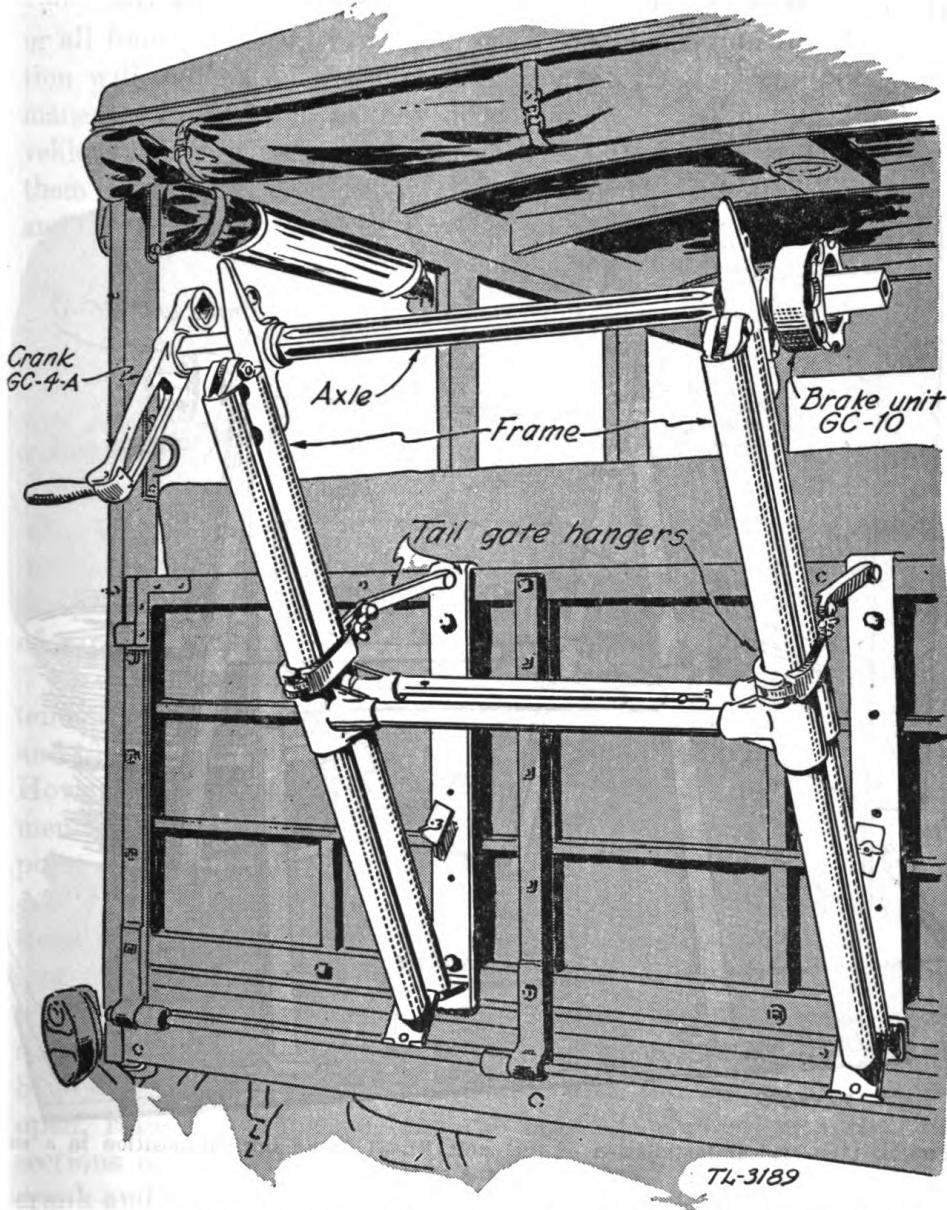
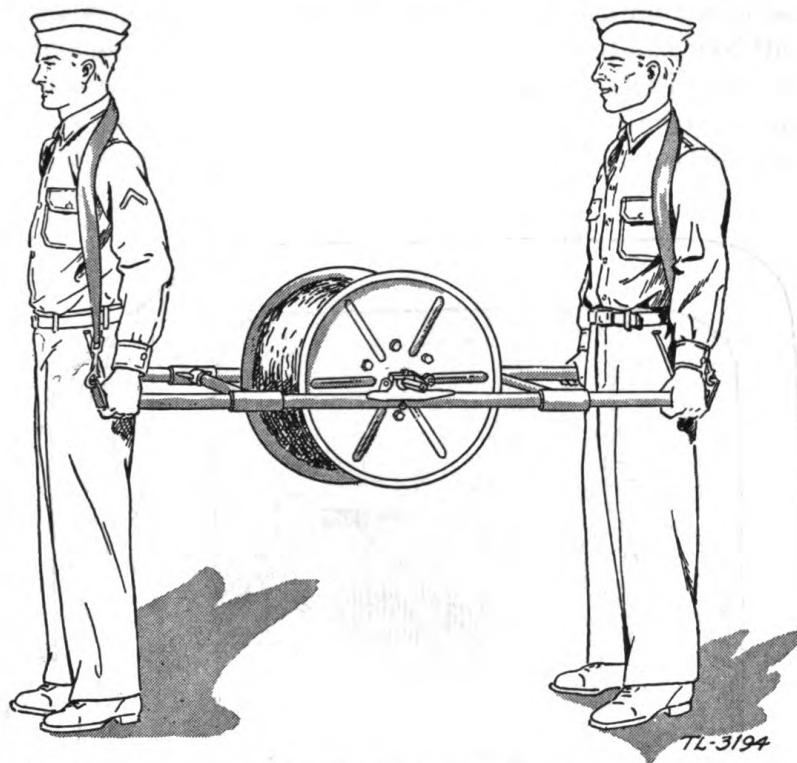

FIGURE 10.—Folded-up RL-31 mounted on back of a station wagon by means of tail gate hangers. Note how top clamps encircle both legs and hold them securely.
FIGURE 14.—Convenient means of carrying reel unit RL-31 loaded with mile of wire on reel DR-5.
10. Transportation.—a. General (Superseded).—The reel unit RL-31 is intended for use mainly in small trucks, as indicated in figures 10, 11, and 13. Two lines can be paid out or recovered provided that an equal amount of wire is maintained on the reels. The $\frac{1}{4}$ -ton, 4 by 4 truck can be used to lay field wire and field cable cross country over terrain impassable to other vehicles. When $\frac{1}{4}$ -ton trucks are used as wire-laying vehicles, larger trucks are often released for other purposes. The limited cargo space and weight-carrying capacity of the $\frac{1}{4}$ -ton truck restrict its use as a wire-laying vehicle. Only reel unit RL-31 and reels DR-4, DR-5, and DR-15 are to be used. Reel unit RL-31 mounted in a $\frac{1}{4}$ -ton truck is to be used for the installation and recovery of single circuits, such as short trunks and laterals, and for the maintenance of existing circuits. However, for short local
wagon" type of vehicle. They are bolted permanently in place, as shown in figure 10, and the folded frame is then set into them. The tail gate must be at least 21 inches deep to accommodate these hangers. If it is shallower, they cannot be used, and the toe clamps should be employed instead.
10. Transportation.—*a. General.*—The reel unit RL-31 is intended for use mainly in small trucks, as indicated in figures 10, 11, and 13. Two lines can be payed out rapidly and also recovered rapidly. However, for short local lines, the unit can also be transported by two men in litter fashion (fig. 14) set up on the ground at any selected point (figs. 2 and 12), and the wire then pulled out by hand.
b. Litter carry.—(1) Place the loaded reel on the ground, with the sides upright. Fold the cross braces of the RL-31 flat against the cross arms and open up the double H-frames. The heavy castings on which the axle bearings are mounted will keep the assembly open in a straight line. Place the frame over the reel and rest it on the ground. Slip the axle through the reel, and, with the hinged bearing caps open, raise the frame so that the bearings engage with the round sections of the axle. Snap the bearing caps closed and attach the crank and the brake unit.